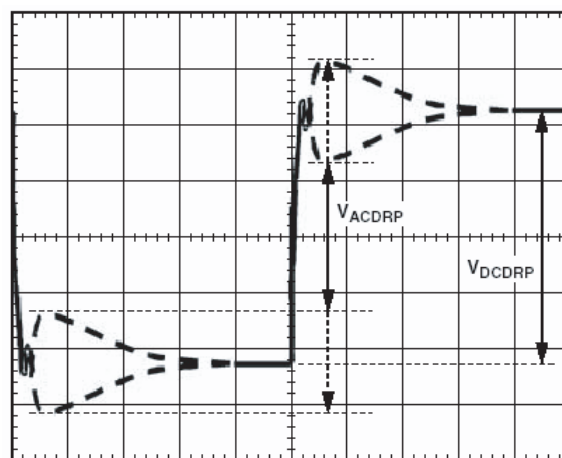
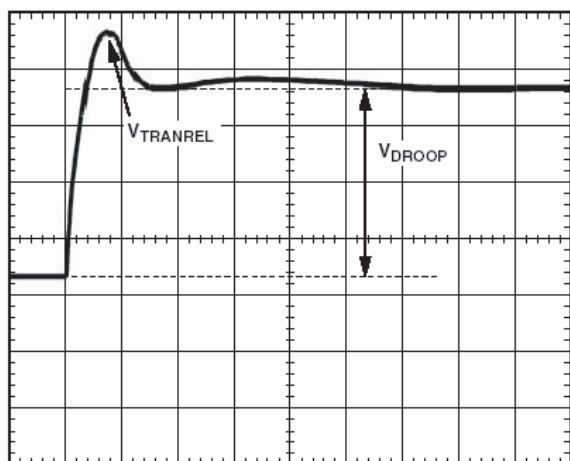

Figure 9. Transient Setting Waveform
Figure 10. Transient Setting Waveform
19. With dynamic load still set at maximum step size, expand the scope time scale to see 2μs/div to 5μs/div. You will see a waveform that may have two overshoots and one minor undershoot (see Figure 9). Here, V_{DROOP} is the final desired value.
21. For load release (see Figure 10), if V_{TRANREL} is larger than V_{TRAN1} (see Figure 9), you do not have enough output capacitance. You will either need more capacitance or need to make the inductor values smaller (if you change inductors, you need to start the design over using the spreadsheet and this tuning procedure).